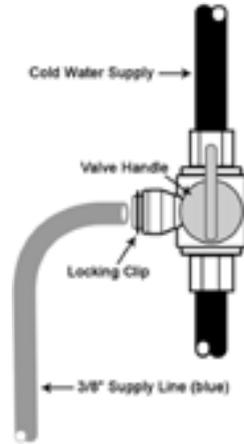

Figure 11: Incoming Water Supply Valve
- Turn off the incoming water supply valve. (See Figure 11).
- Turn off the incoming water. (See Figure 11).